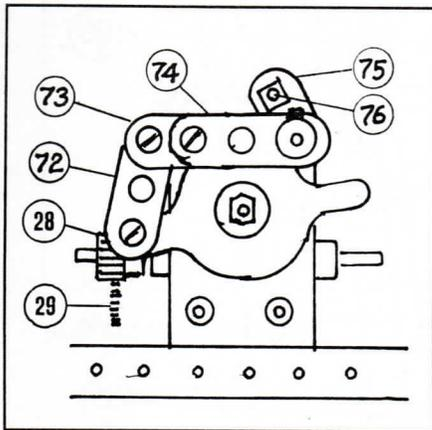

Fig. 4. Motor Control (E15R). (front view).
**3.4(A), Motor Control (E15R) (Fig.4)**
Fig.4 shows the motor viewed from the front. A 1 1/2in. Strip 72 is locknuttet to one arm of the motor control level. Its other end is locknuttet to a 2in. Strip 73 bolted to a Crank 74, which is fixed on a 6 1/2in. Rod journalled in two Angle Brackets bolted to the corner holes of the motor sideplate. The rod extends behind the dashboard and carries a second Crank 75 fitted with a short Threaded Pin 76 to act as control handle. Adjust this arrangement as necessary to suit the model.